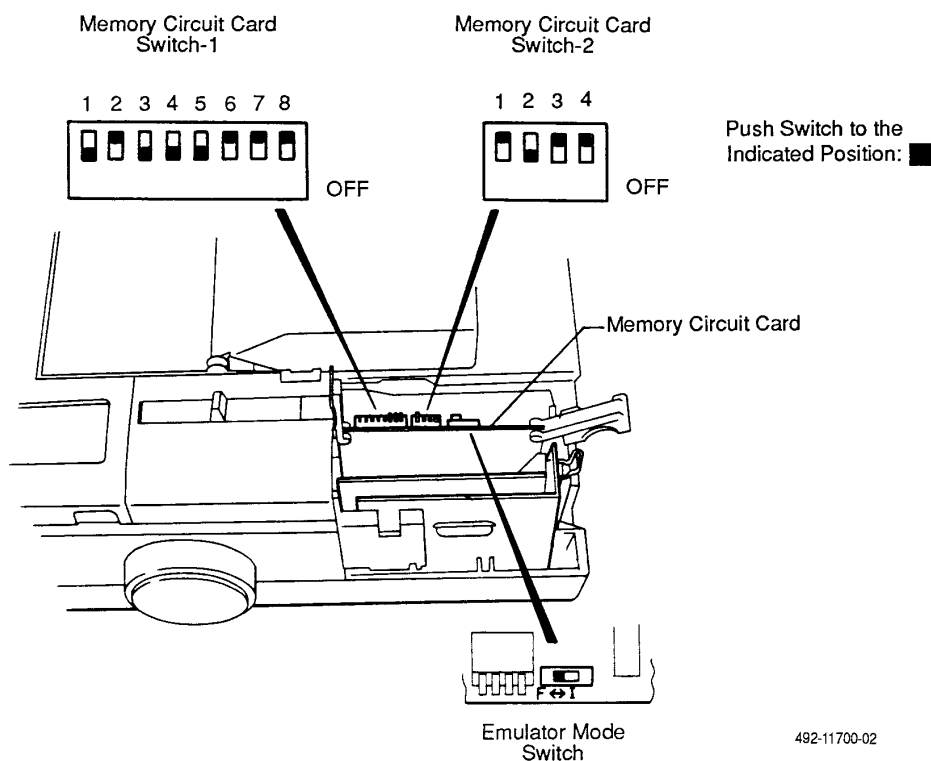

Figure 3-7. DX2300 — Memory Card Settings
4. The memory card contains an emulator mode switch and two DIP switches. Figure 3-7 shows the location of the card in the printer and indicates the various switch settings.
- Set the emulator mode switch to Type F (see Figure 3-7).
- Set the DIP switches to the positions indicated in Figure 3-7. Table 3-3 also indicates the setting of each switch, as well as each switch's function.